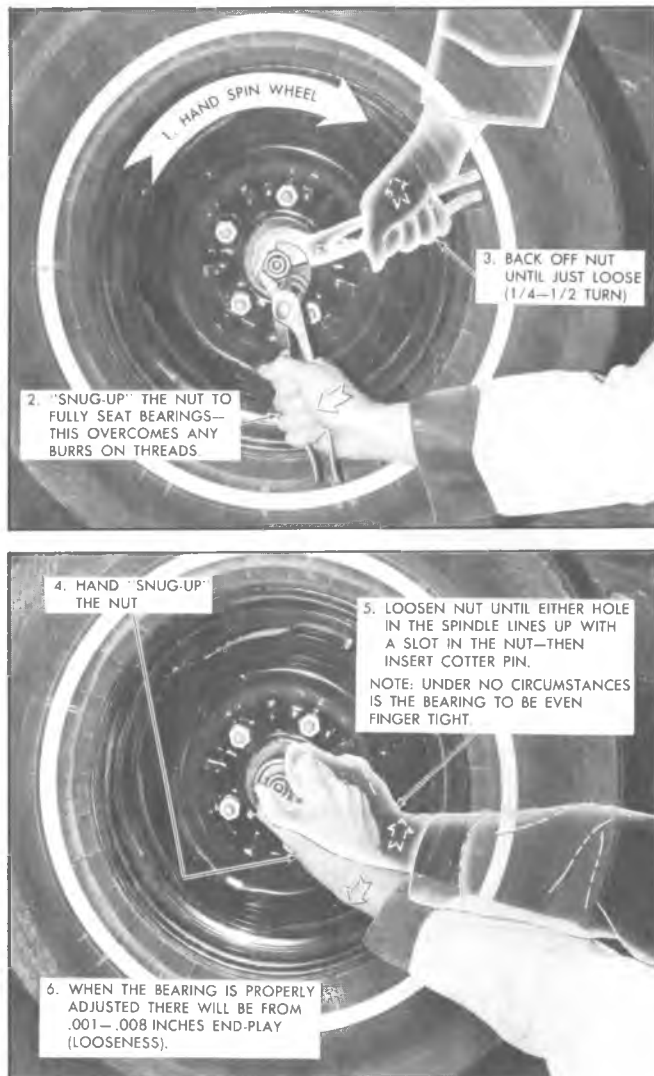

Fig. 3—Wheel Bearing Adjustment
5. Adjust bearing as shown in Fig. 3.